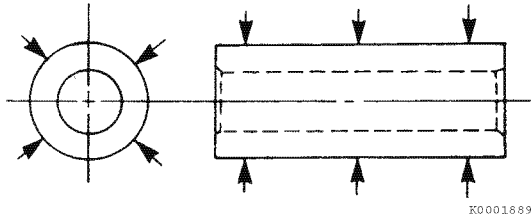

Figure 6-67
7. Measure the outside diameter of the wrist pin in three places and at 90° (**Figure 6-67**). See *Piston* on page 6-7 for specifications. Record the measurements.